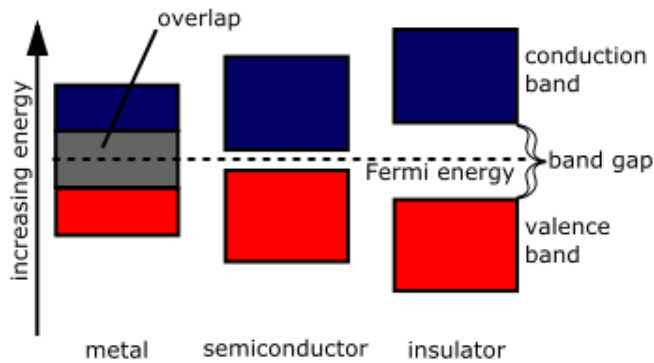

Figure 2 : Representation of energy bands
**(i) Insulators.** Insulators (e.g. wood, glass, plastics, rubber etc.) are those substances which do not allow the passage of electric current through them. In terms of energy band, the valence band is full while the conduction band is empty as shown in Fig 2. Further, the energy gap between valence and conduction bands is very large (**15 eV**). Therefore, a very high electric field is required to push the valence electrons to the conduction band. For this reason, the electrical conductivity of such materials is extremely small. At room
- (ii) **Conductors.** Conductors (*e.g.* copper, aluminum) are those substances which easily allow the passage of electric current through them. It is because there are a large number of free electrons available in a conductor. In terms of energy band as in Fig 2, the valence and conduction bands overlap each other due to this overlapping; a slight potential difference across a conductor causes the free electrons to constitute electric current.
- (iii) **Semiconductors.** Semiconductors (*e.g.* germanium, silicon *etc.*) are those substances whose electrical conductivity lies in between conductors and insulators. In terms of energy band, the valence band is almost filled and conduction band is almost empty in fig 2. Further, the energy gap between valence and conduction bands is very small. The semiconductor has :